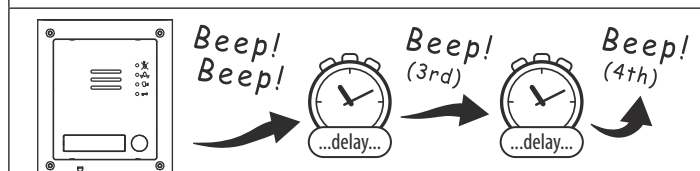

Fig. 64
3. Power up the GSM module, 2 short beeps will be heard followed by a brief delay, then a single beep (3rd beep), followed by another brief delay and then finally another single beep (4th beep), as shown in **Fig.64**.